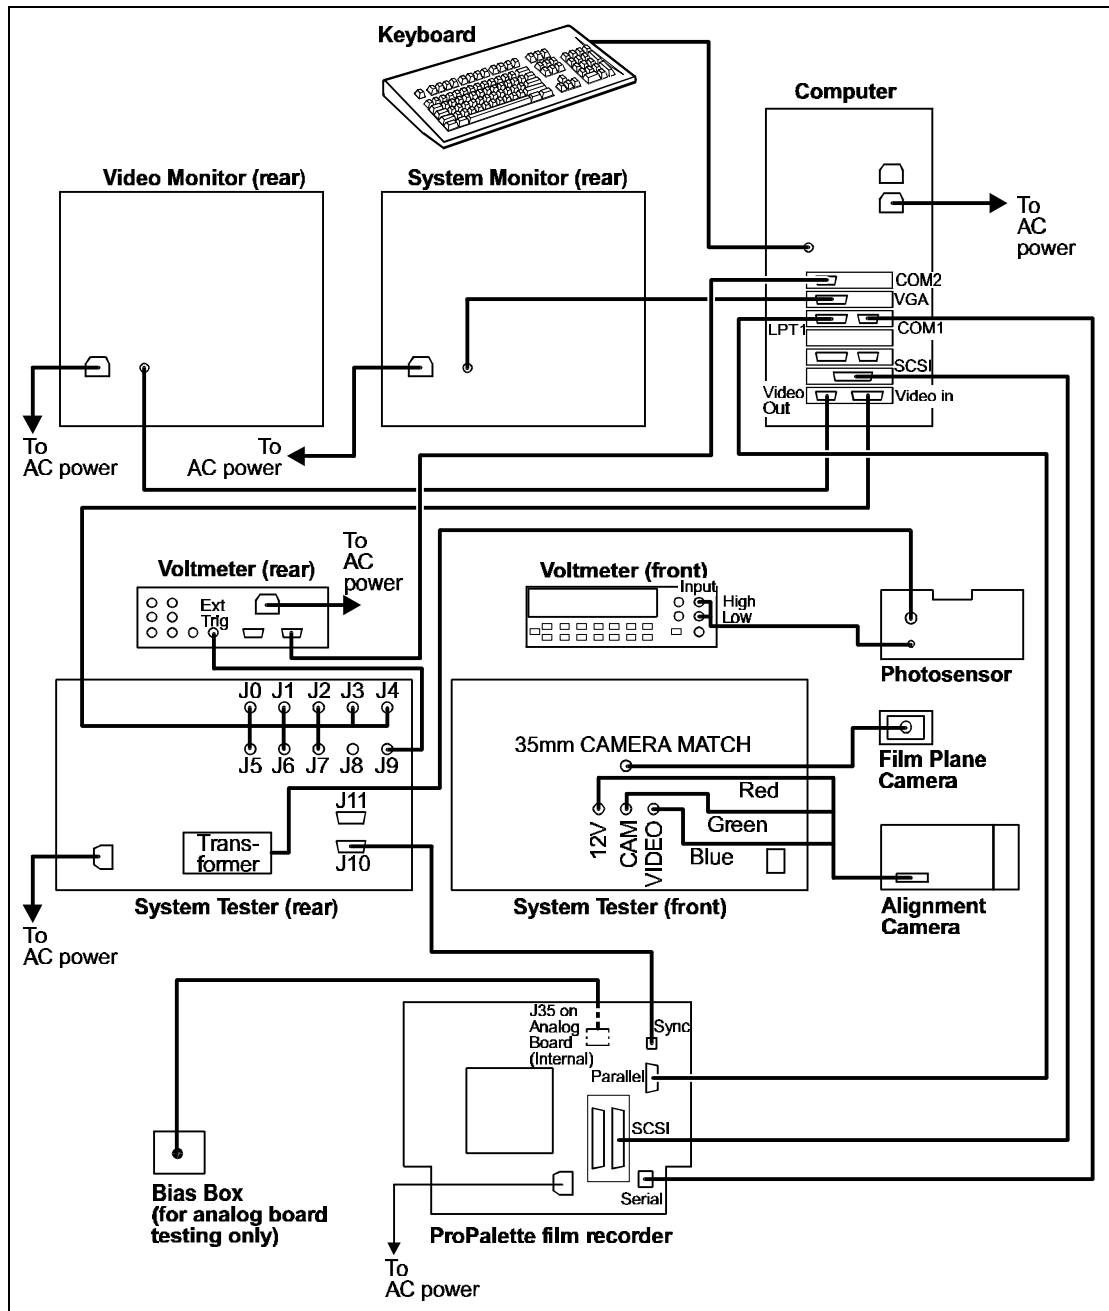

Figure 5-2. Connecting the ProPalette to the Test Stand
1. Connect the following cables to the ProPalette unit (Figure 5-2):